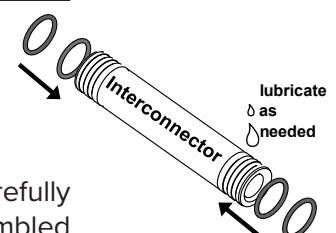

Figure TMM-200-1
3. If required, assemble interconnectors with supplied o-rings carefully to avoid any scratches. Use glycerine as a lubricant. Keep assembled interconnectors in a clean place until inserting them into permeate tubes (**Figure TMM-200-1**).